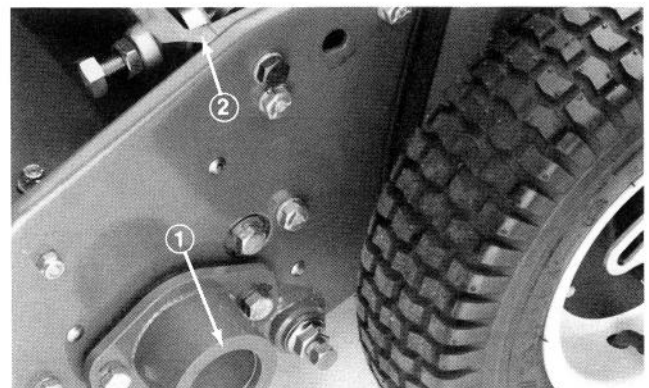

Figure 2
4. Remove (2) capscrews securing end cap to left side plate of machine and remove end cap. Retain end cap and mounting screws for use if groomer is ever removed (Fig. 2).
5. Remove (2) capscrews and washers securing left bedbar adjuster frame to side plate (Fig. 2).